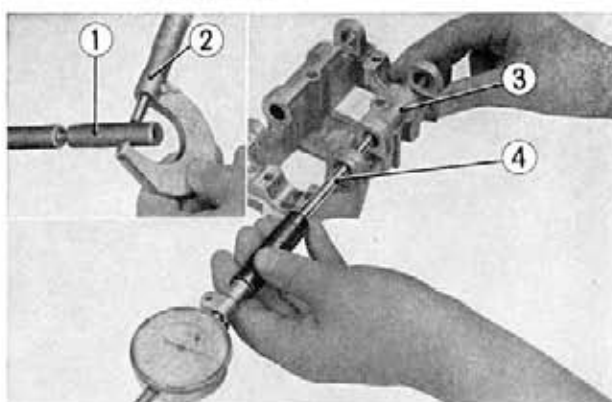

Fig. 3-53 ① Rocker arm shaft
② Thickness gauge
4. Measure the rocker arm shaft support area with a micrometer and measure the rocker arm shaft bearing diameter bore using inside micrometer. Calculate clearance and if it is greater than **0.0047 in. (0.11 mm)**, replace either one or both of the parts. (Fig. 3-53)